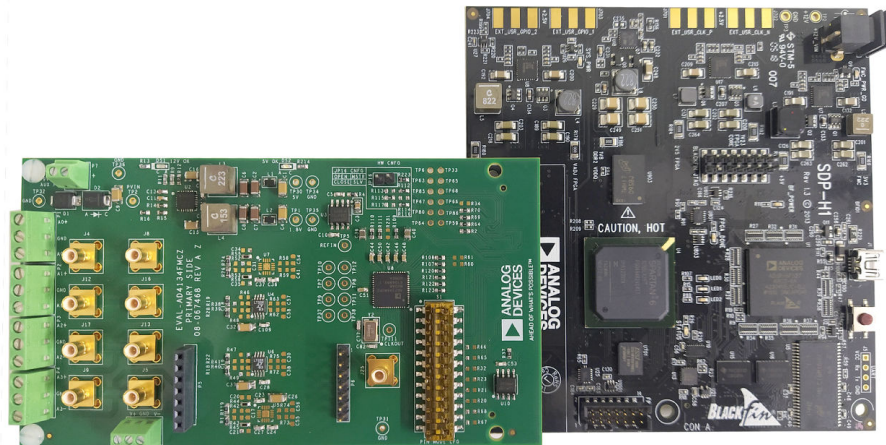

Figure 2. EVAL-AD4134FMCZ and SDP-H1 Board Connection
3. Connect the J4 connector of the SDP-H1 board to the P8 connector of the powered down EVAL-AD4134FMCZ, as shown in Figure 2. Ensure that the boards are connected firmly together and all S1 switch positions are off.